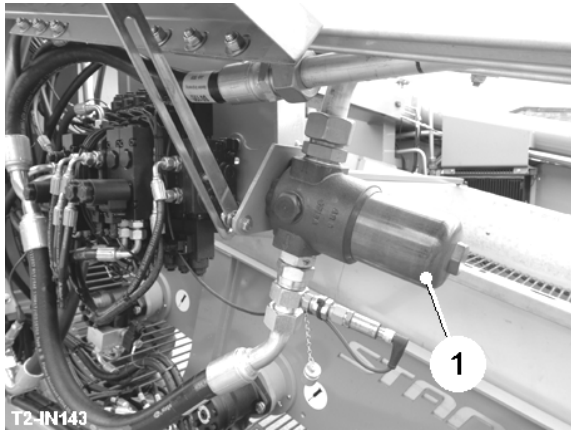
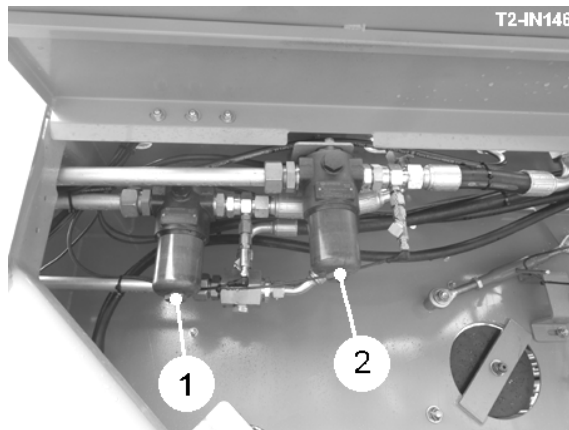

Fig 37
Fig 40
The pressure filter elements (item 1, fig 37, 38, & 39) and (item 1 & 2, fig 40) should be replaced after the first 50 hours running time and then every 500 hours or annually thereafter.
2. In the case of the auxiliary circuit pressure filter (item 1, fig 37), operate the spool valve feeding the harvester to release any residual pressure and then disconnect the feed hose from the tractor.